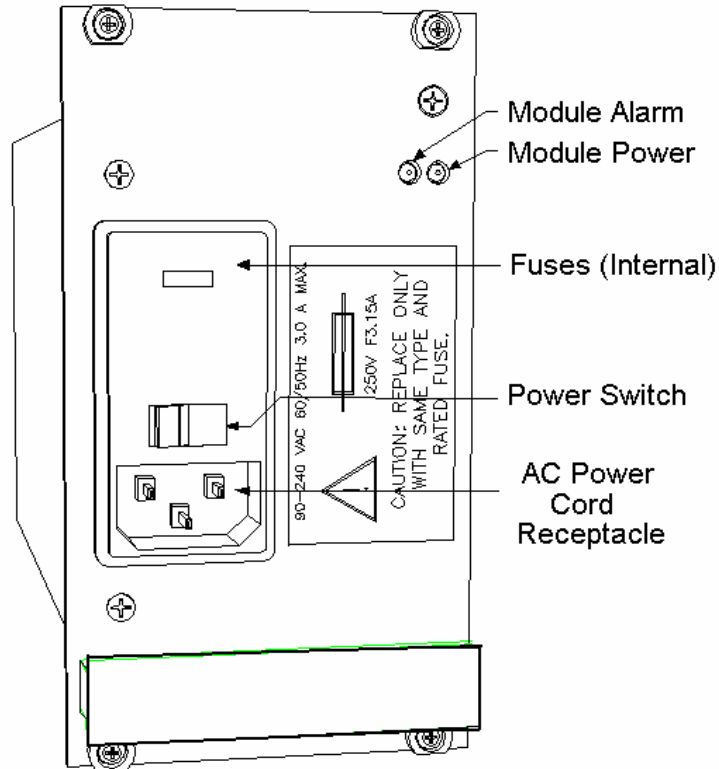

Figure 5-1 AC Power Connections
- Standard AC input (refer to Figure 5-1 and paragraph 10.2).